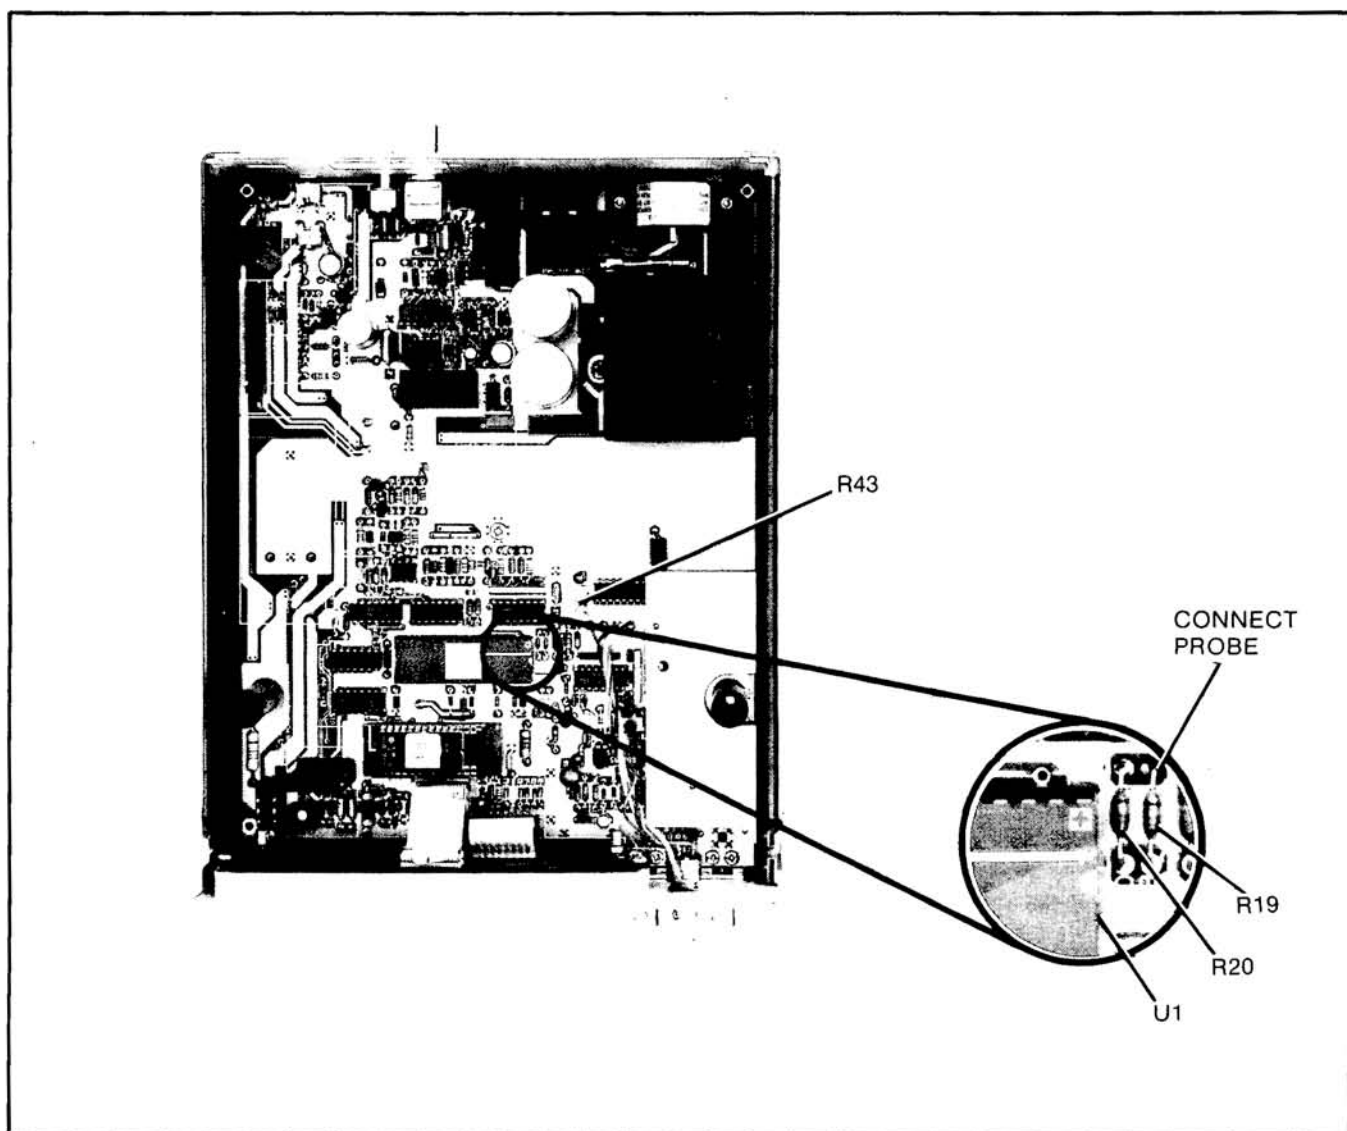

Figure 5-1. Assembly Adjustment Locator
a. Remove the HP 5384A/HP 5385A top and bottom covers; locate variable resistor A1R43 as shown in *Figure 5-1*, Assembly Adjustment Locator.
e. Connect the scope probe at the junction of A1R19 and A1R65E. See *Figure 5-1* for probe connection point.